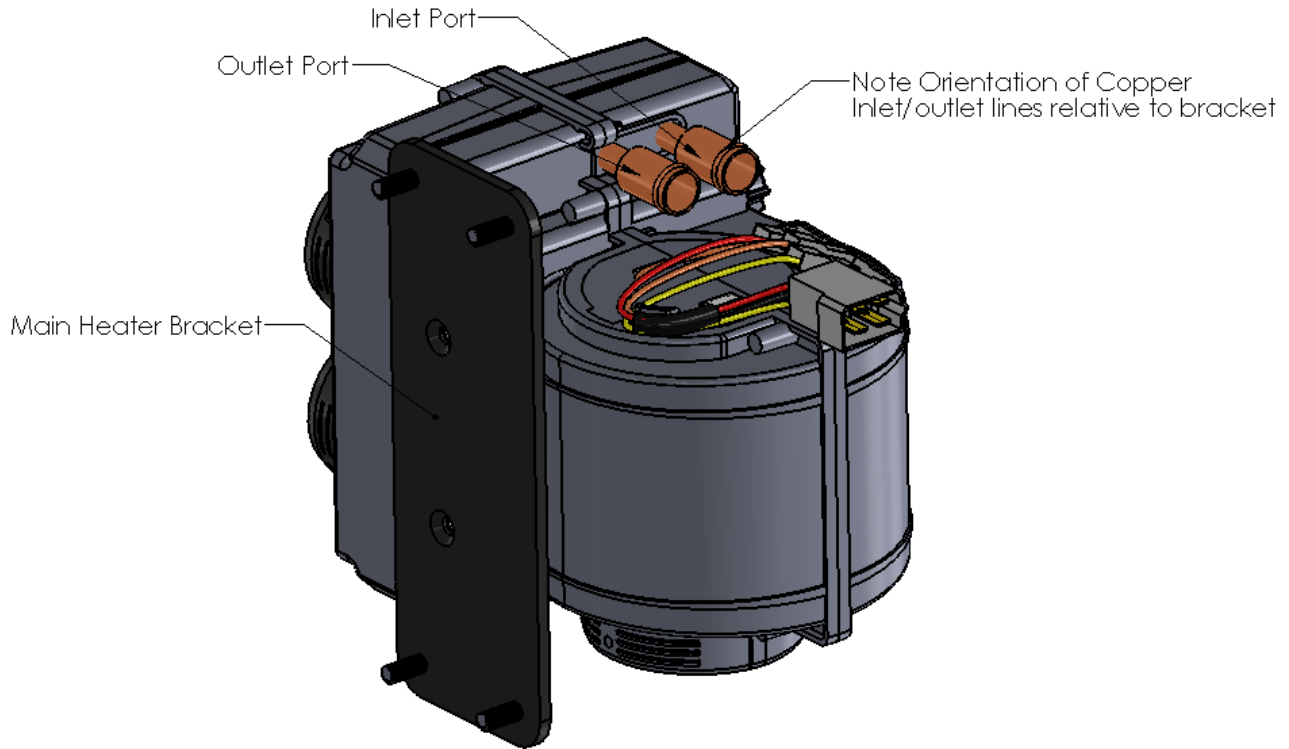

Figure 12
45. Mount the Heater Unit to the Heater Mount Bracket using the included M6-1.0 x 14mm Flat Head Cap Screws. Note the orientation of the heater relative to the bracket as shown in Figure 12.